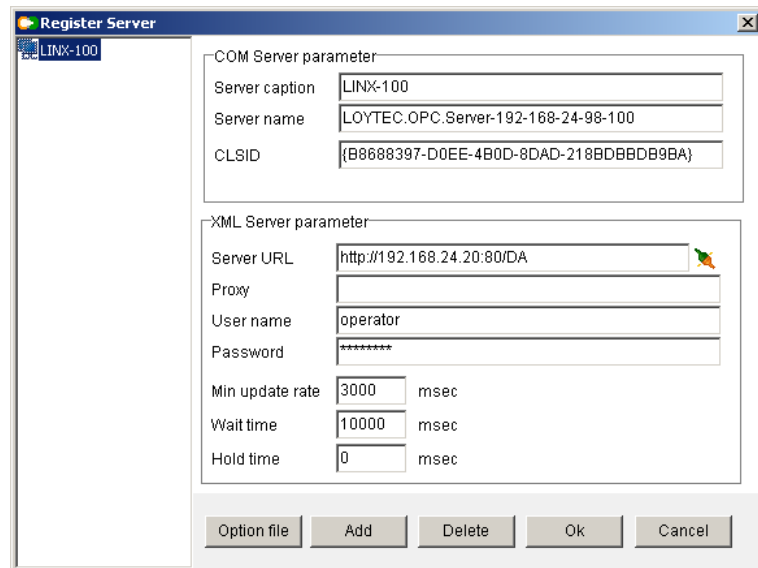

Figure 184: Register Server dialog in the bridge software.
5. A new server entry is added. Enter the information on **Server caption** (this is displayed), **Server name** (this is the COM object name), and the **Server URL** (the URL of the LOYTEC device) as shown in Figure 184.